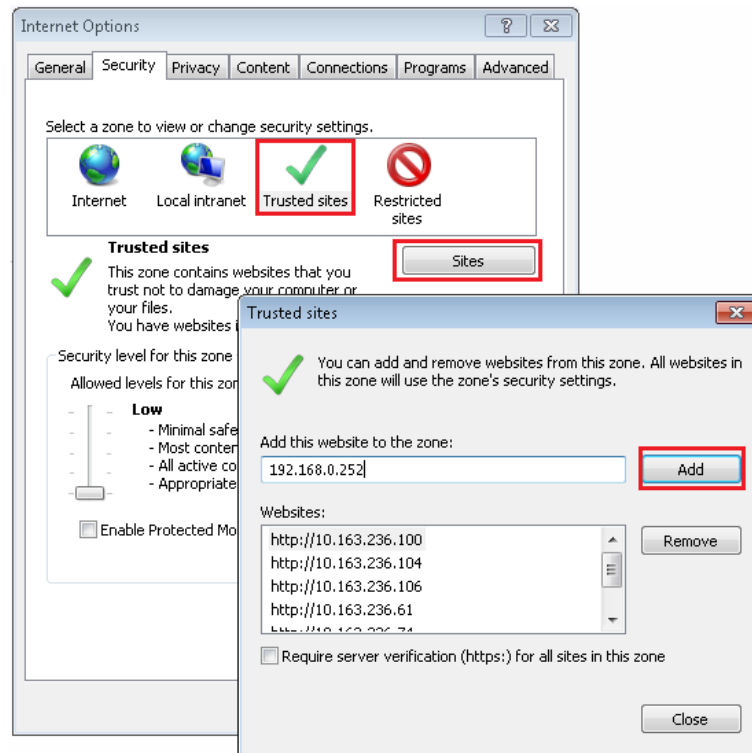

Figure 3-8 Adding trusted sites
6. In the window shown in Figure 3-8, add the IP address of the RDU-EX into the trusted site list.